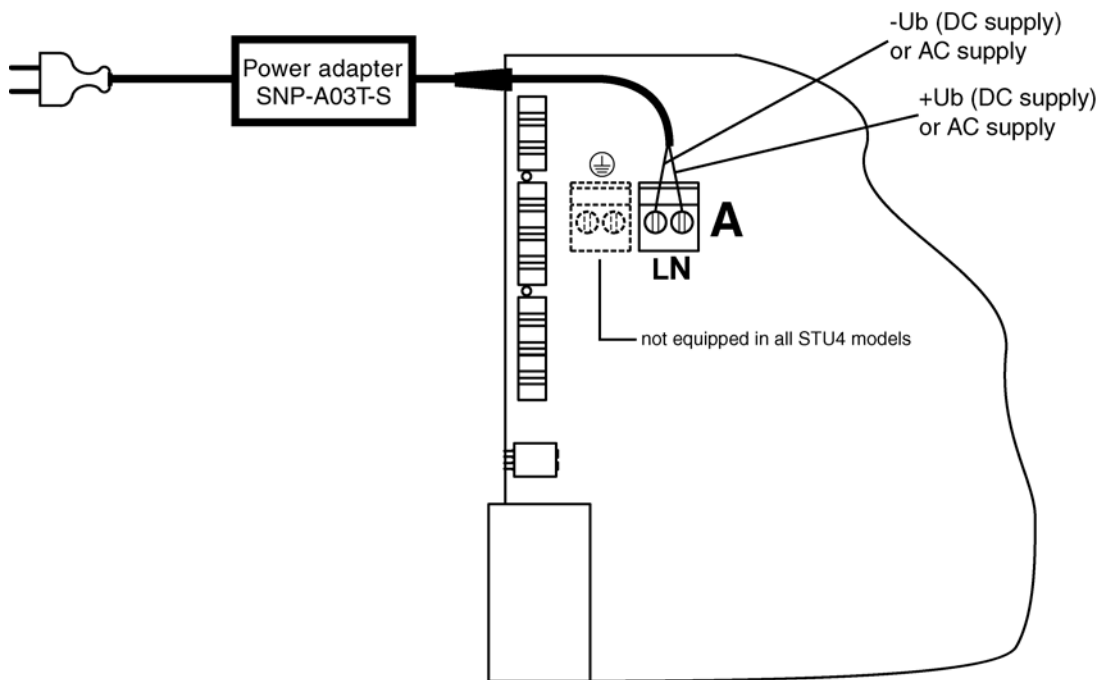

Fig. 2.153 Connecting desktop power adapter SNP-A03T-S
7. Connect the desktop power adapter according to Fig. 2.153 (**Warning:** You must not bend the board)